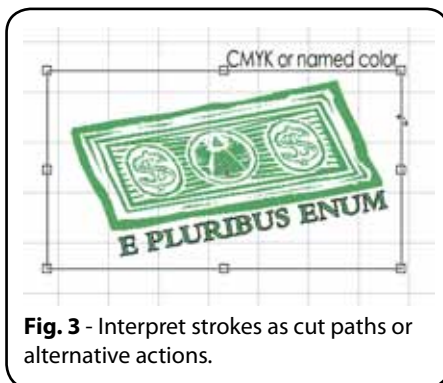

Fig. 3 - Interpret strokes as cut paths or alternative actions.
- **Print and Cut Support** – For design applications that support vectors, you can create vectors of a specific color (Fig. 3), which can be interpreted as cut paths by Digital Factory.